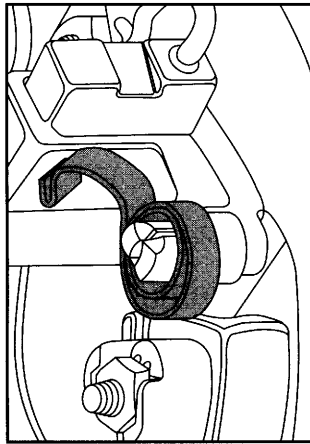

Figure 2 Brush removal / installation integral brush spring
3. Pull the end of the spring from the top of each brush and place the end of the spring on the step of the casting so that it is out of the way for brush replacement (reference Figure 2).
Caution: Orient the brush in the brush guide so the bottom of the ramp is adjacent to the brush spring and the brush shunt is closest to the end bell (reference figure 2).
6. Carefully pull the end of the spring from the top of each brush. Place the end of the spring on the step of the casting so that it is out of the way for brush replacement (reference Figure 2).